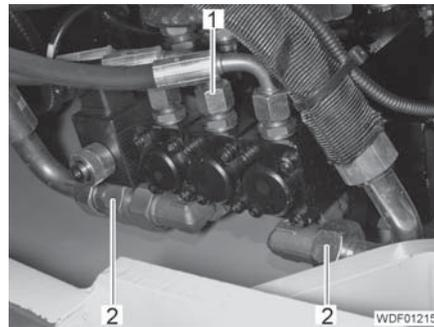

Fig. 164 Underside of the control valve
- Unscrew and close off the hydraulic lines (Fig. 164,2).
- Unscrew and close off the hydraulic lines (Fig. 164,1).